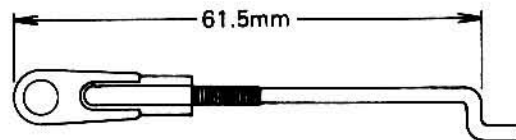

Fig. 24
- 49** Connecting bell crank and swash plate. Make two rods as shown in fig. 24. And connect up two bell cranks to the swash plate.